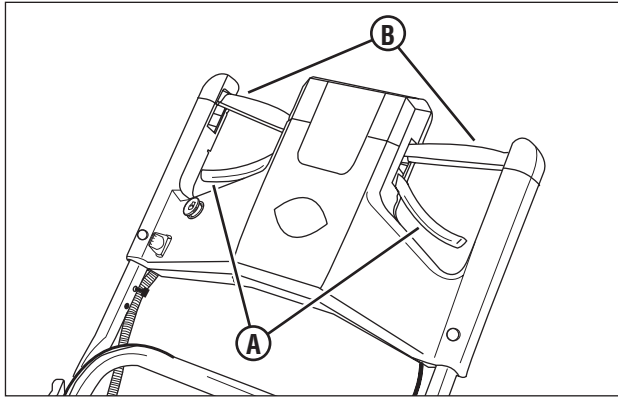

Figure 1: Mower controls
2. Check the blade control (**A**, **Figure 1**) and drive control (**B**) to insure they work freely.